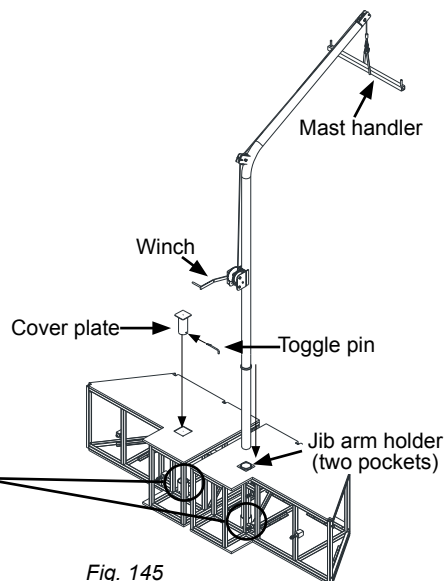

Fig. 145
- 2- Remove the toggle pin under the bridge link and lift the cover plate of the jib arm holder on the bridge link (fig. 145).
- 4- Pull the mast handler out of its storage location and attach it to the top of the jib arm (fig. 145).